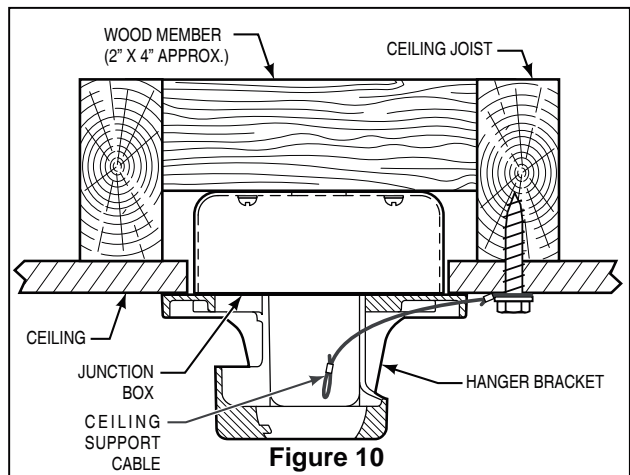

Figure 10
1. Using the $\frac{3}{8}$ " x 2" lag bolt and flat washer, attach safety cable to ceiling joist or wood structural member. The lag bolt will pass through the flat washer, safety cable loop, and into the building structure (Figure 10). You will first drill a $\frac{1}{4}$ " pilot hole into the building structure to prevent splitting or cracking.
NOTE: Ceiling support cable cannot be secured to junction box only, it must be directly secured to ceiling joist or structural member using the $\frac{3}{8}$ " x 2" lag bolt and flat washer. (Figure 10)